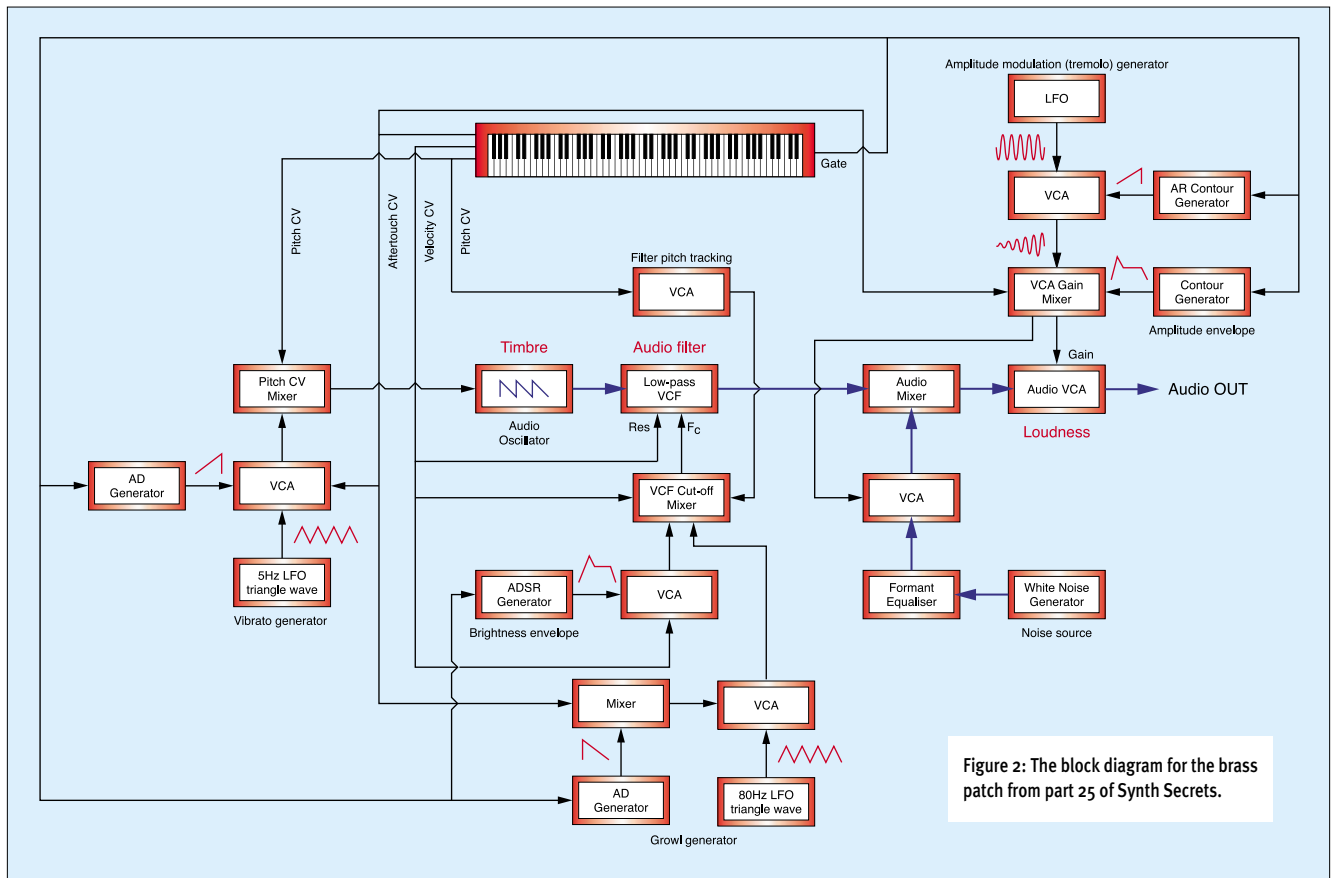

Figure 2: The block diagram for the brass patch from part 25 of Synth Secrets.
Figure 19: How little of Figure 2 survives on the Minimoog. The large amount of blank space should drive home how ill-equipped (in theory, at least) the Minimoog is to deal with the idealised brass patch. Nevertheless, acceptably 'brassy' results are forthcoming!
▶ using the more limited (single-oscillator, single-contour-generator) architecture offered by the SH101. Let's start by referring back to the block diagram for a brass patch, first shown in part 25 of Synth Secrets (see Figure 2, below).
Clearly, the SH101 has far too few component modules to recreate this in full, so I'll have to restrict myself to the most important elements of the sound. This means that the delayed vibrato to the left of Figure 2 will have to go. Similarly, the shaped noise is a goner. As for the tremolo and some of the complexities of the growl generator... sorry chaps, but there's no place for you, either. So what *can* I do?